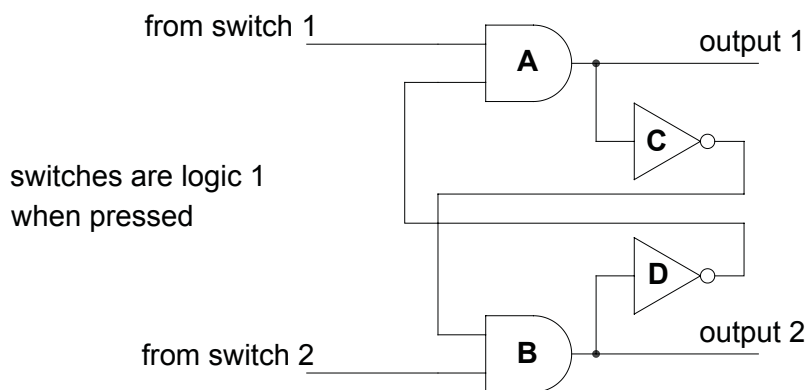

Fig. 12.4
- (f) In a quiz competition the first player to press their switch can answer the question. Fig. 12.4 shows a logic circuit that can detect which switch has been pressed first.